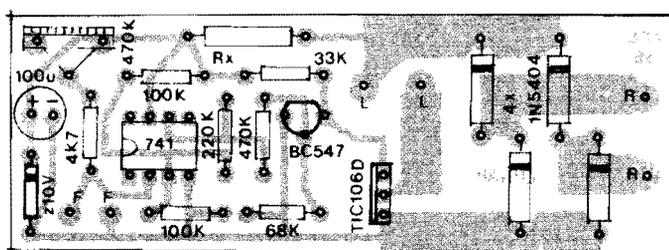

Fig.3
- FIG. 3 - "CHAPEADO" DA MONTAGEM